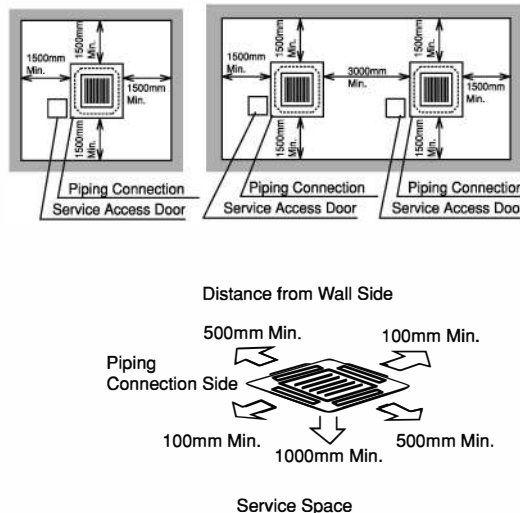

Fig. 3.1 Space around Indoor Unit
- Install the indoor unit with a proper clearance around it for operation and maintenance space, as shown in Fig.3.1.